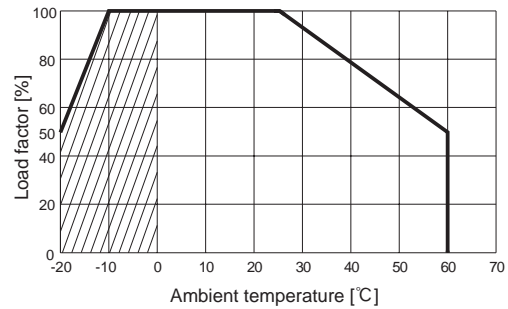
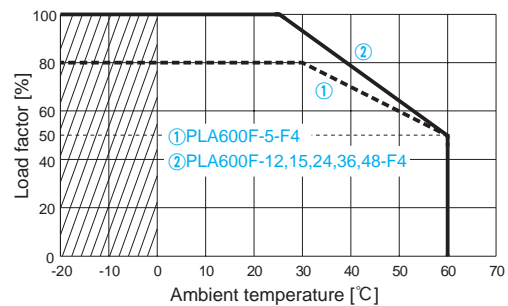

Fig.5.16 Ambient temperature derating curve for PLA300F (Option-F4)
Fig.5.17 Ambient temperature derating curve for PLA600F (Option-F4)
- The differences from the standard fan versions are shown in Fig. 5.16 and Fig. 5.17.